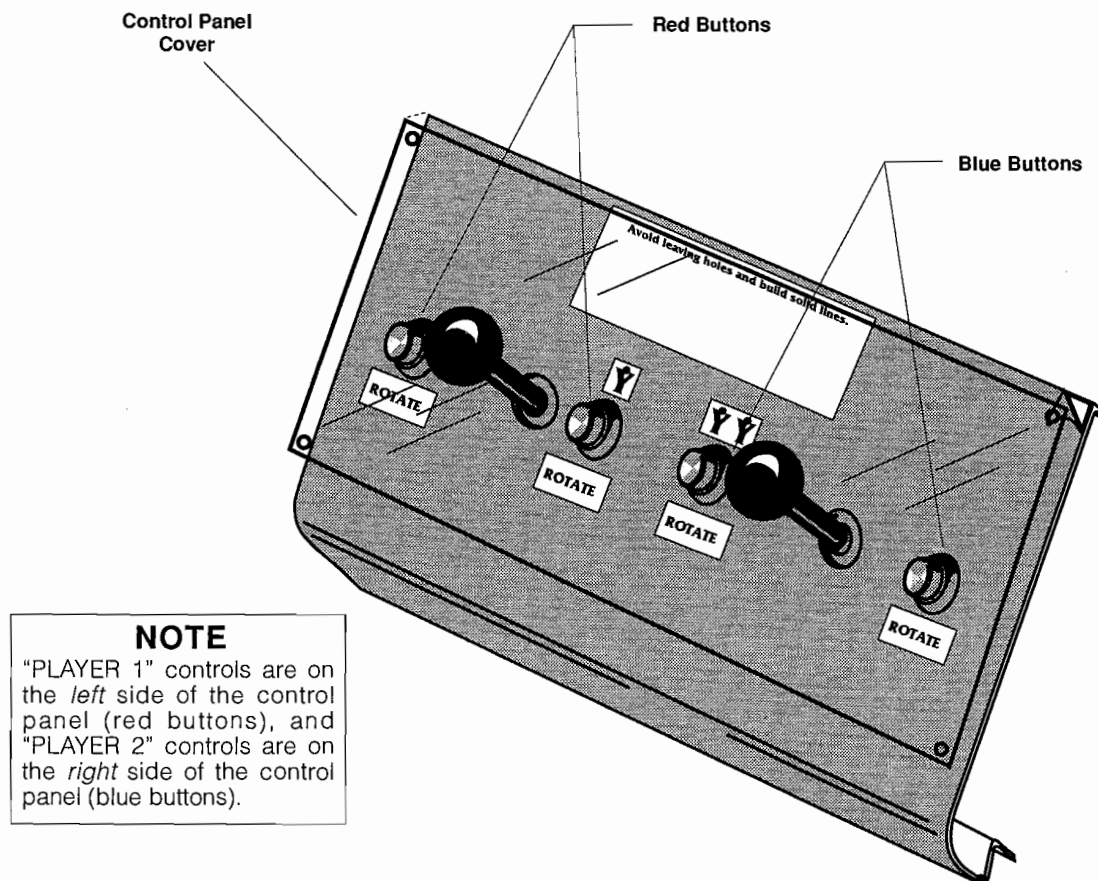

Figure 1-2 Converting the Control Panel
- Determine the location of the player pushbuttons and joysticks on the control panel. (See Figure 1-2.)
- Install the button labels on the control panel decal. (See Figure 1-2.)
- Install the instruction label (part no. 046506-01) on the control panel decal. (See Figure 1-2.)
- Install the red player control buttons (part no. 178237-001) for the left player. (See Figure 1-2.)
- Install the blue player control buttons (part no. 178237-005) for the right player. (See Figure 1-2.)